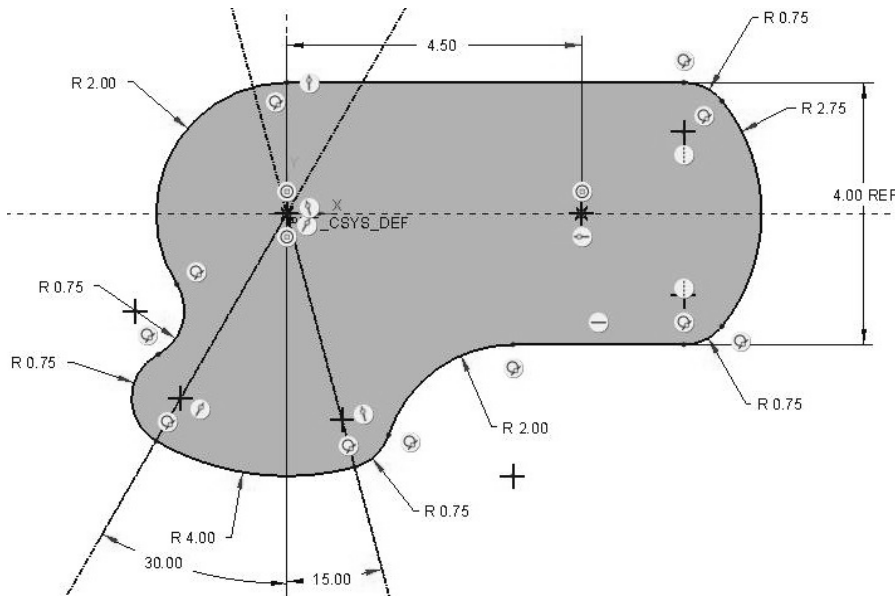

Figure 3-72 Problem 3—Operating Arm-8
3.3 Draw the initial sketch for the “**operating_arm-8**” (Figure 3-72). **Design Intent** – This is an exercise in making arcs tangent to lines and other arcs. The upper left R2.00 arc is centered at the origin along with the lower R4.00 arc. The lower R4.00 arc swings through a 45° angle with 30° to the left of the vertical line and 15° to the right of the vertical line. The R2.75 arc has its center point on the horizontal line 4.50 units from the origin. The lower R2.00 arc is tangent to the horizontal line and the R0.75 arc. All R0.75 arcs are tangent to the neighboring entities. (>File>Options>Sketcher, change to 2-decimal places before sketching.)